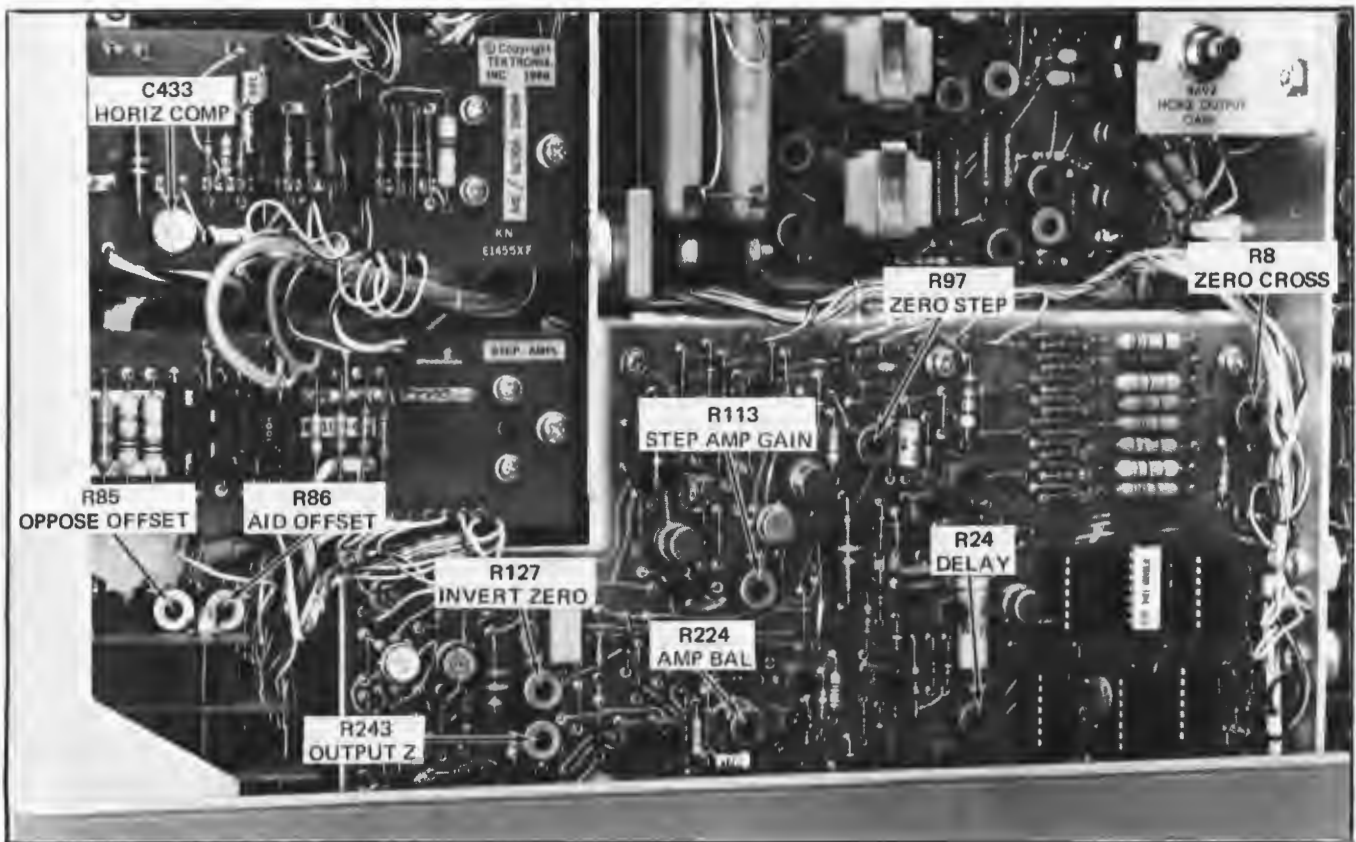

Fig. 5-7. STEP GEN, STEP GEN OFFSET and HORIZ VOLTS/DIV circuit boards: Location of adjustments in step 14 and steps 20 through 23.
f. Turn C433, HORIZ COMP adjustment, on the HORIZ VOLTS/DIV circuit board (see Fig. 5-7) throughout its range.